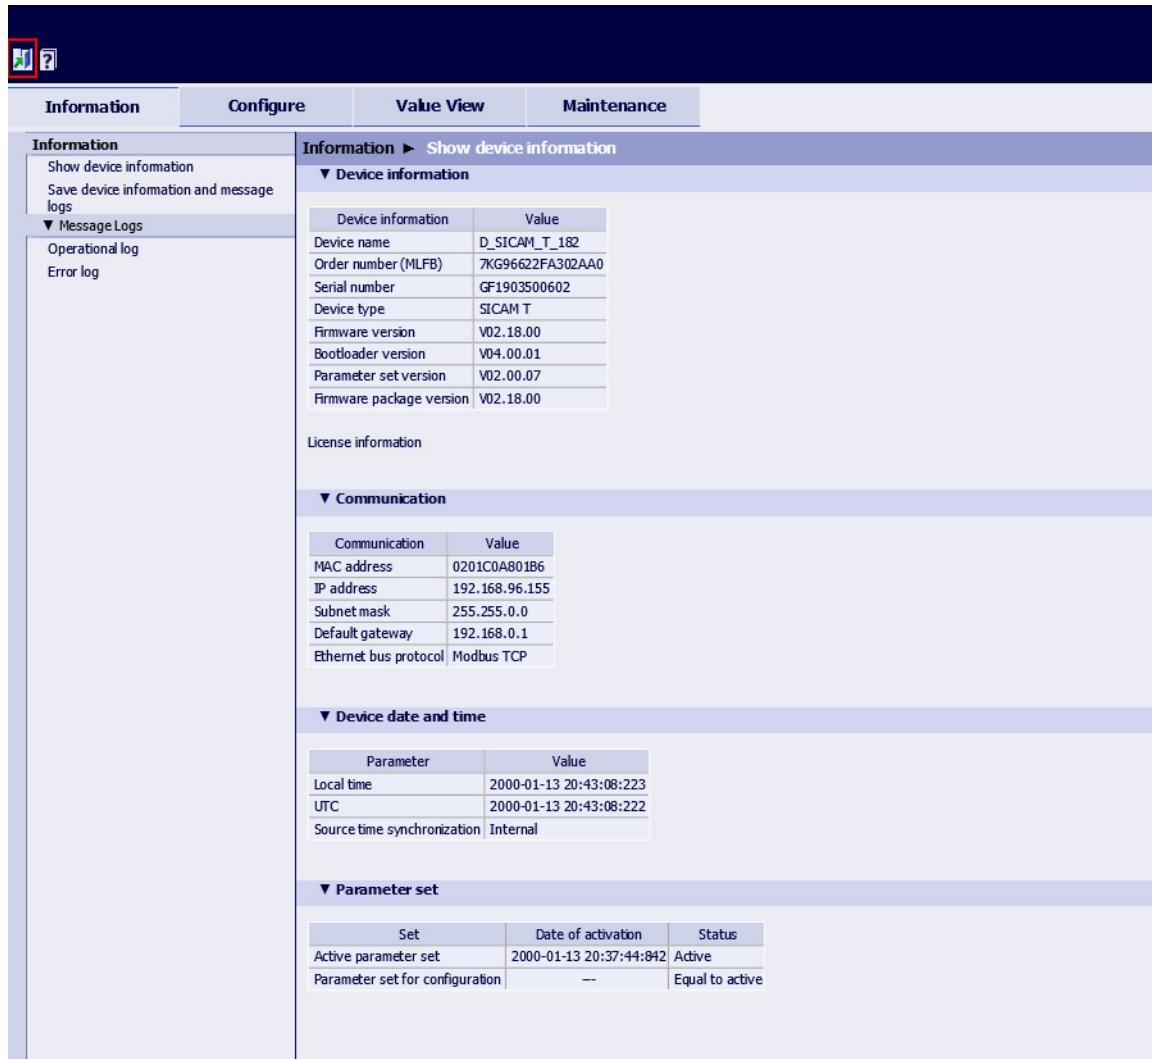

Figure 7-9     Information Tab, Show Device Information Input/output Window
- The User Interface opens with the **Information** tab → **Show device information** (see Figure 7-9).
The **Show device information** input/output window shows the following information (see Figure 7-9):